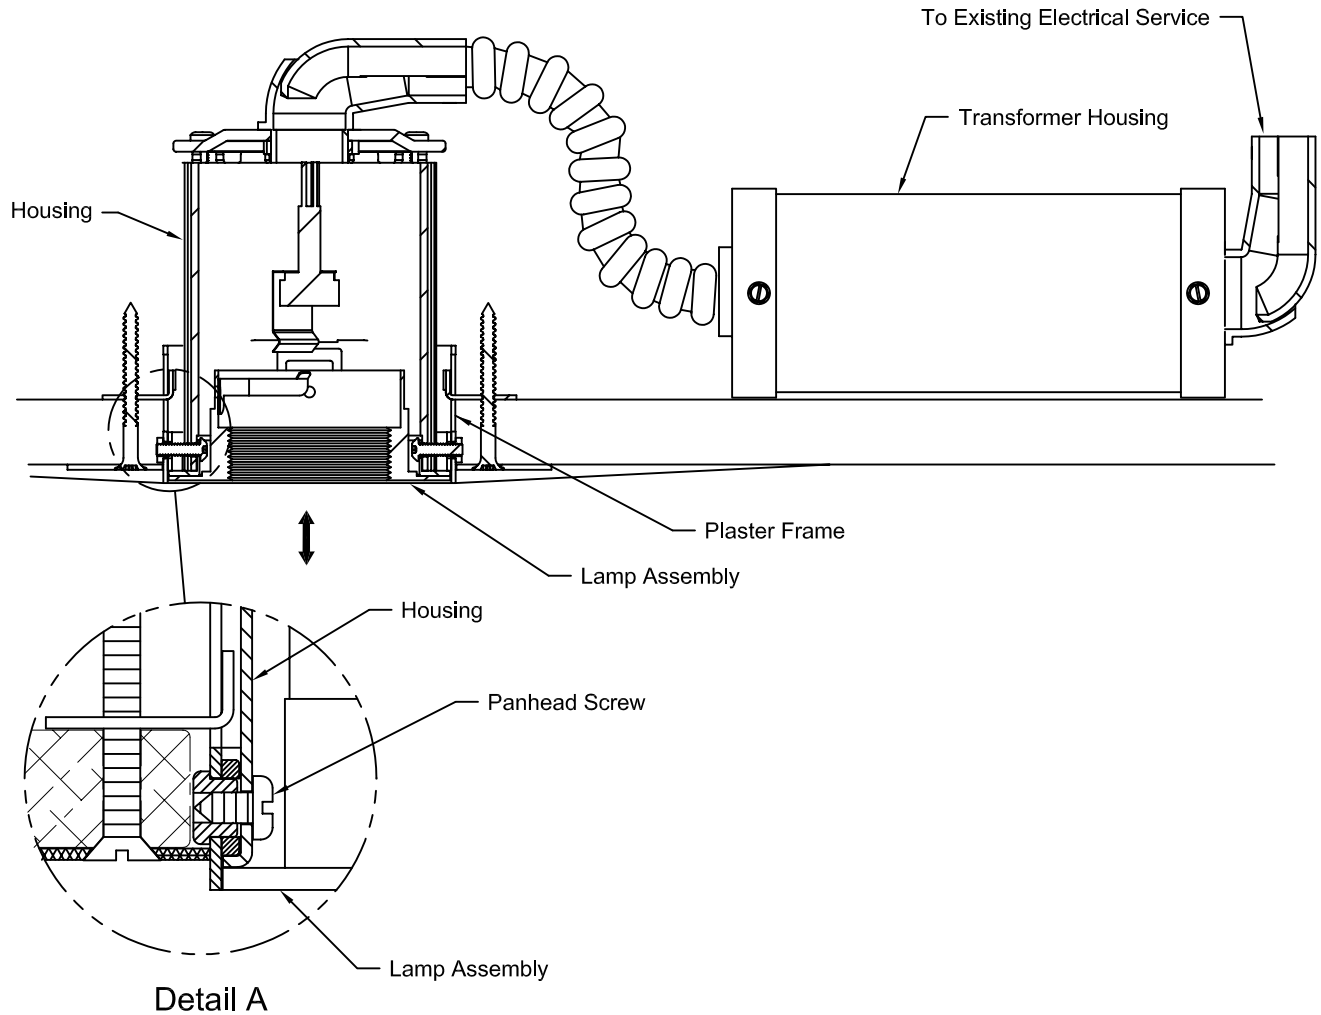

Figure 4
3. Remove two (2) Short Panhead Screws from inside of Housing/Plaster Frame Assembly. See Fig. 4, Detail A. Retain Screws for re-installation.
5. Rotate Transformer Housing 90° and, with it resting on Inside of Ceiling, push to side to clear Plaster Frame in Ceiling. See Fig. 4.
1. Insert Housing into Plaster Frame and retain to Plaster Frame using two (2) Short Panhead Screws removed earlier. See Fig. 4, Detail A. Do NOT overtighten Screws!
2. Install Lamp Assembly into Housing until it Seats in Housing. See Fig. 4.